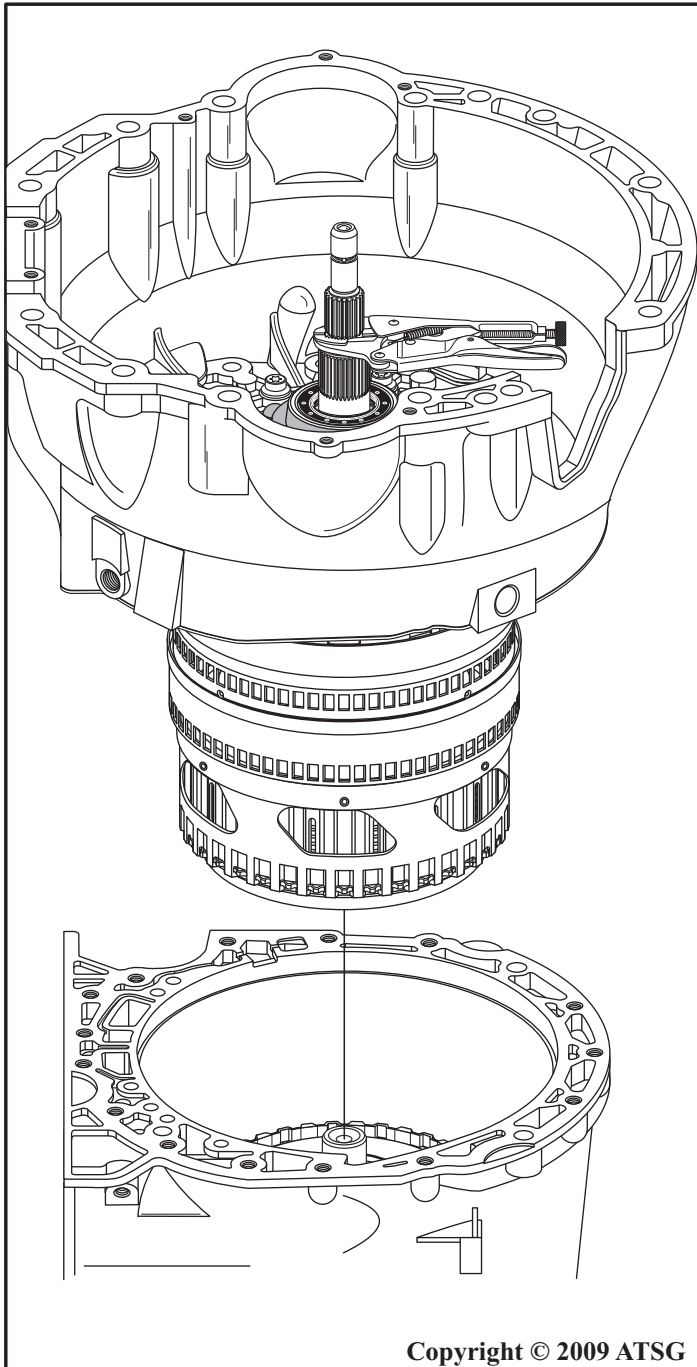

Figure 183
18. Using a helper if necessary, install the completed assembly into the transmission case, as shown in Figure 183.